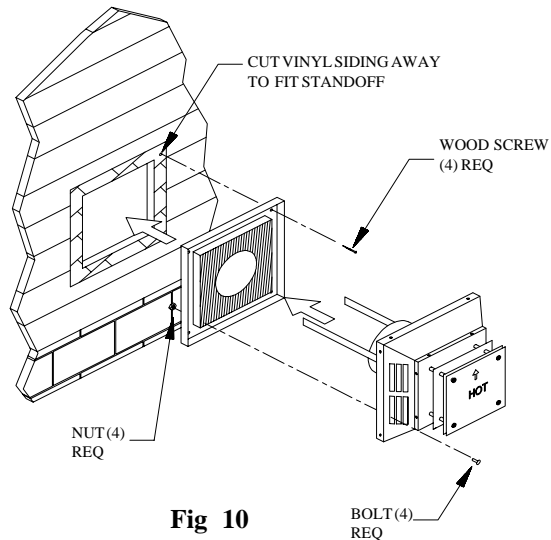

Fig 10
(1) The four wood screws provided should be replaced with appropriate fasteners for stucco, brick, concrete, or other types of sidings.
(2) For buildings with vinyl sidings, a Vinyl Siding Standoff, should be installed between the vent cap and the exterior wall. (Figure 10). Attach the Vinyl Siding Standoff to the Horizontal Vent Termination. The Vinyl Siding Standoff prevents excessive heat from possibly melting the vinyl siding material. Note that the Horizontal Vent Termination bolts onto the flat portion of the Vinyl Siding Standoff, (shaded area shown in Figure 10), so that an air space will exist between the wall and the Vent Termination. Follow the label on the Standoff for which side of the Standoff faces wall.